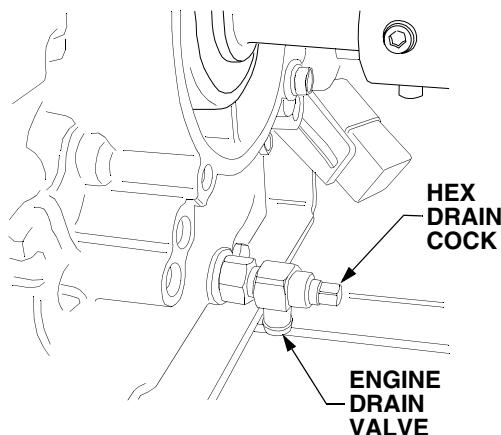

Figure 54
- Locate the engine drain valve on the rear of the engine (See Figure 54). Place a suitable container below the open end of the drain valve to collect the old oil.
- Turn the valve drain cock fully clockwise to close the valve, and clean any residual oil from the valve. Refer to Figure 54.